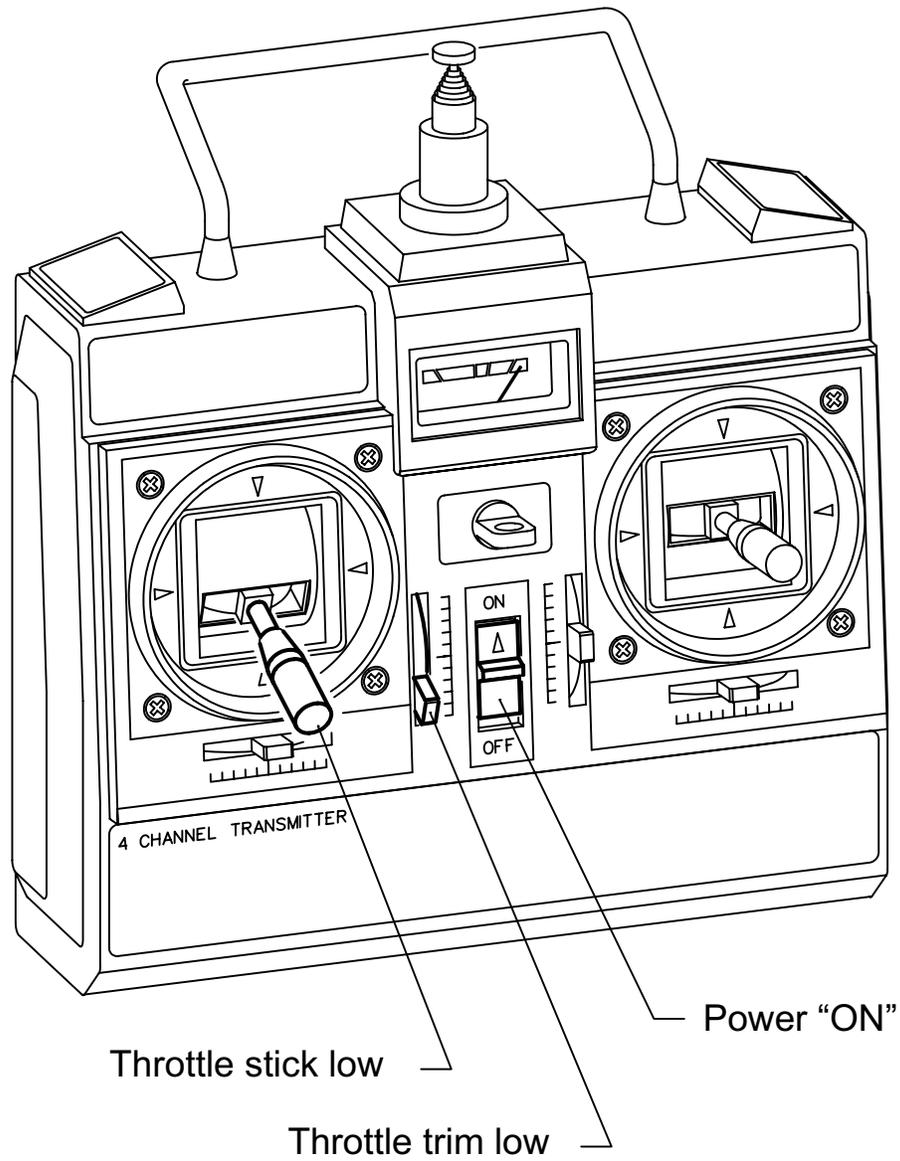

Figure 14-3.
- ❑ 5. In the following steps you will install the pushrods and adjust the servos. To correctly orient the servos for pushrod installation, turn on the transmitter and receiver, move the throttle stick and throttle trim lever to full low position, and all other trims to neutral as shown in Fig. 14-3. Leave the transmitter and receiver on while installing the pushrods.